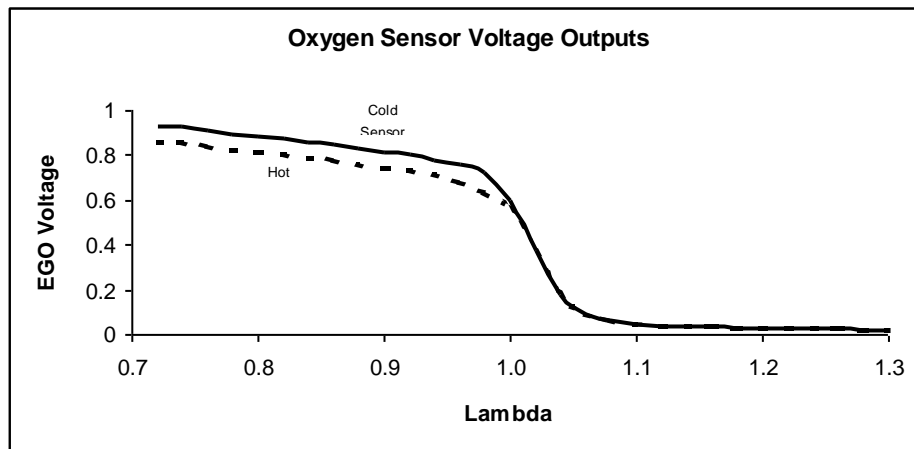

Figure 98: Typical oxygen sensor voltage variation with exhaust temperature.
- Oxygen sensors have a large degree of inaccuracy when operated at different temperatures. **Figure 98** shows a characteristic voltage curve variation with EGO sensor temperature.